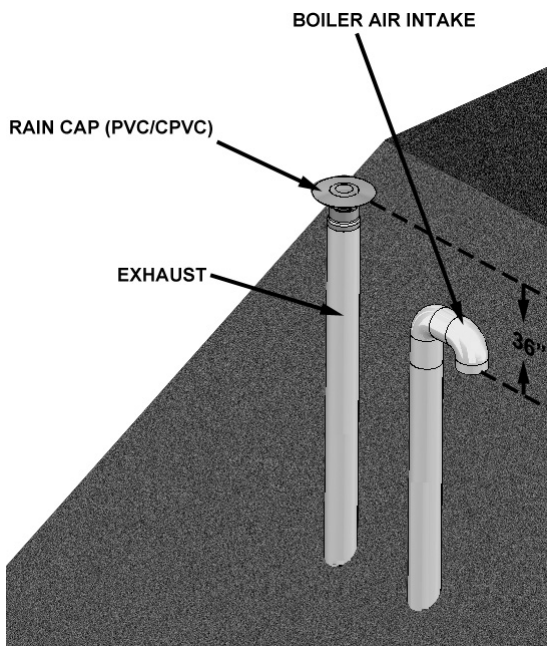
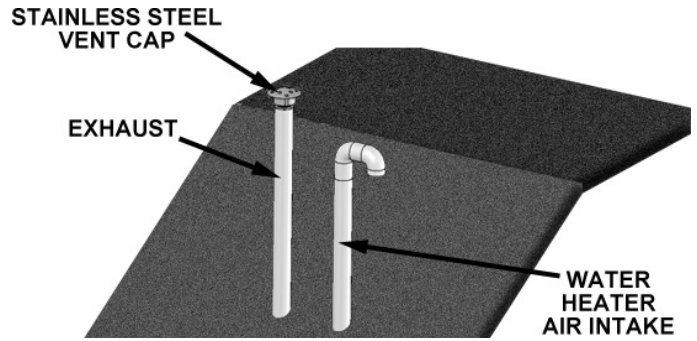

FIGURE 33. PVC/CPVC AIR/VENT TERMINATION - VERTICAL
FIGURE 34. STAINLESS STEEL AIR/VENT TERMINATION - VERTICAL
4. The vent piping must terminate in an up-turned rain cap as shown in Figure 33. When the vent termination uses a rain cap as illustrated in Figure 33, maintain at least 36" (914 mm) above the air inlet.
3. Space the air and vent holes to provide the minimum spacing shown in Figure 33 and Figure 34.